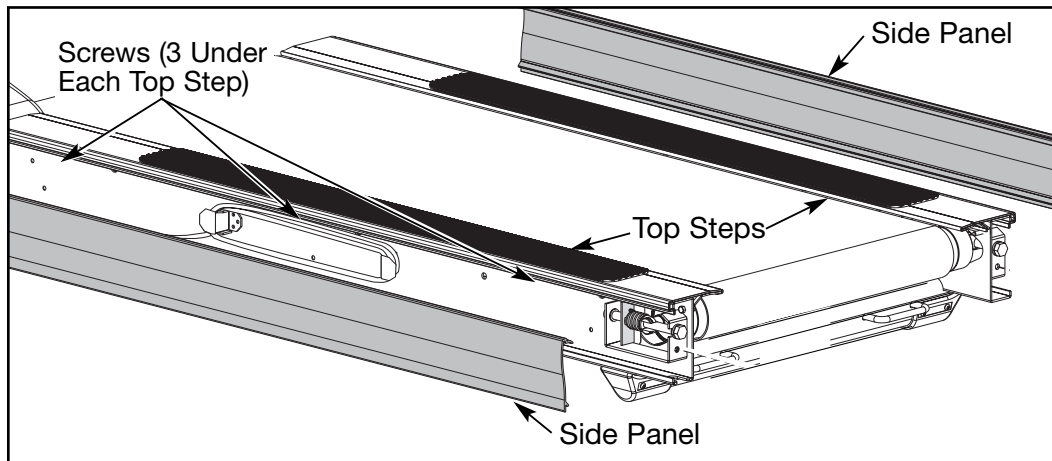

Figure 5
- A. Pull each side panel out and off the treadmill. See Figure 5.
- A. Using a Phillips head screwdriver, remove the three screws that hold one of the top steps in place. Repeat this step for the other side. See Figure 5.
- B. Grasp each top step and slide it out and off the treadmill. See Figure 5.